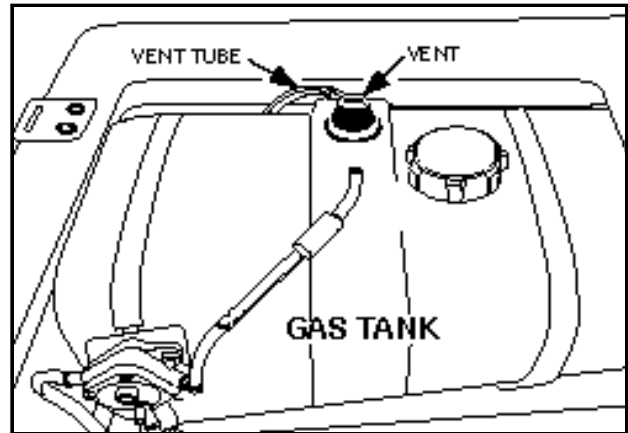

Figure 20
- IF THE VEHICLE HAS AN ALL WEATHER ENCLOSURE INSTALLED, THE GAS TANK MUST BE PROPERLY VENTED (**AS SHOWN IN FIGURE 20**).